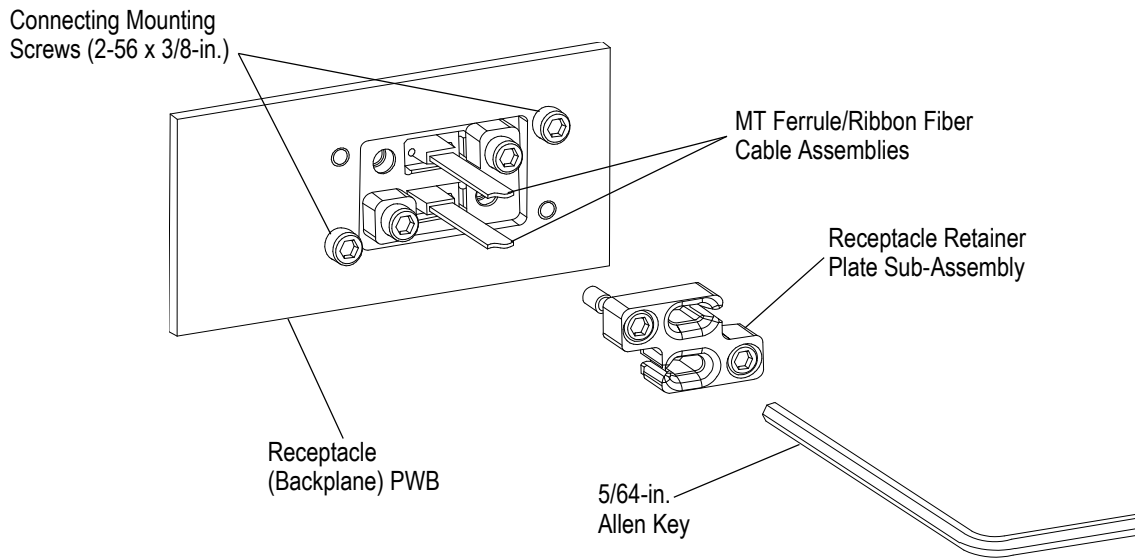

Figure 14
B. Receptacle (Backplane) Connectors (Figure 14)